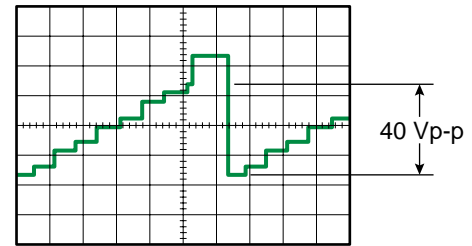

Fig. 4-2
- Adjust the Increment Button (+) or Decrement Button (-) so that the output of TP802 becomes 40 Vp-p as shown in Fig. 4-2.